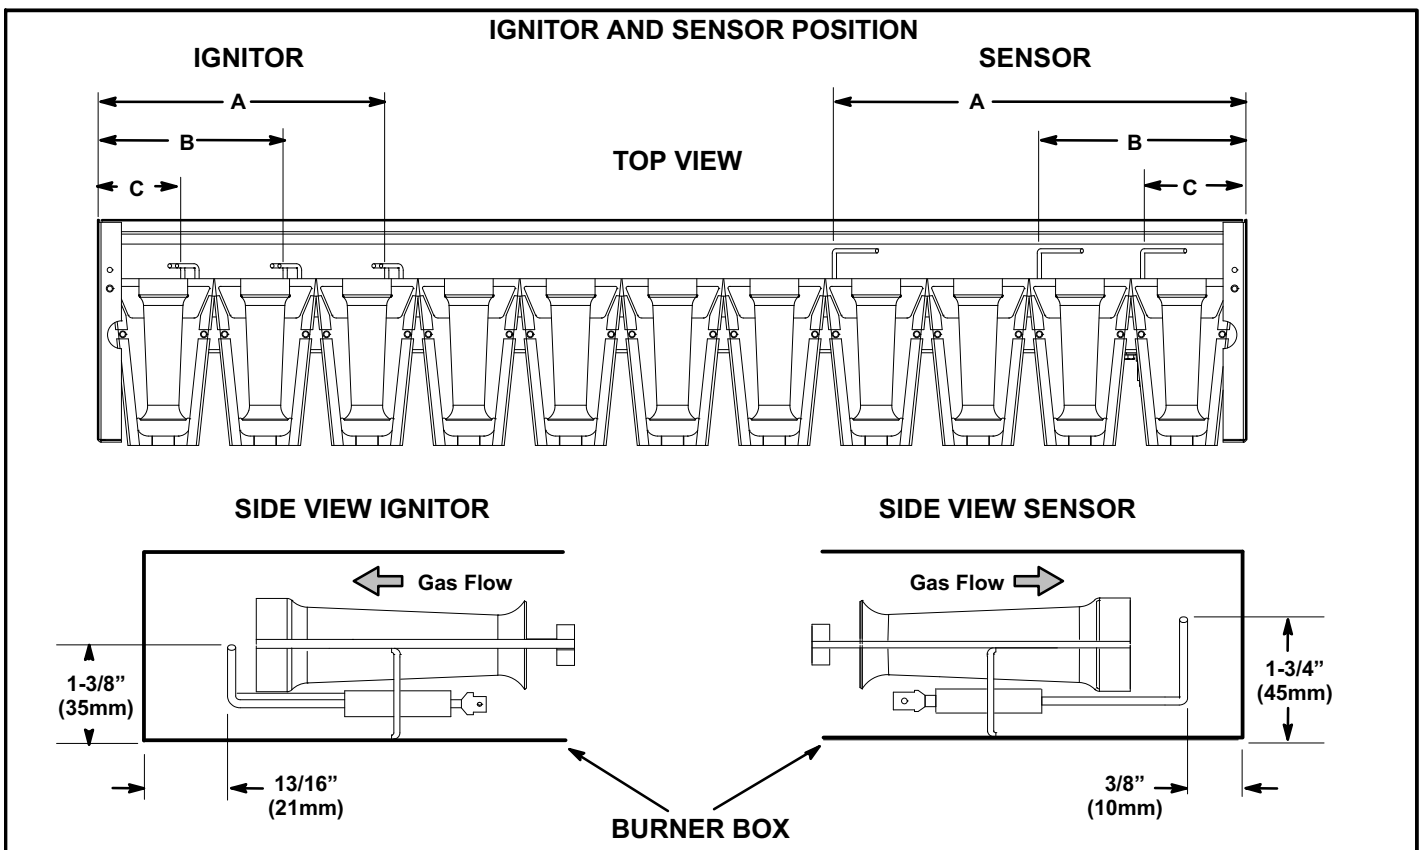

FIGURE 27
- 5- Check the alignment of the ignitor and the sensor as shown in figure 27 and table 21.